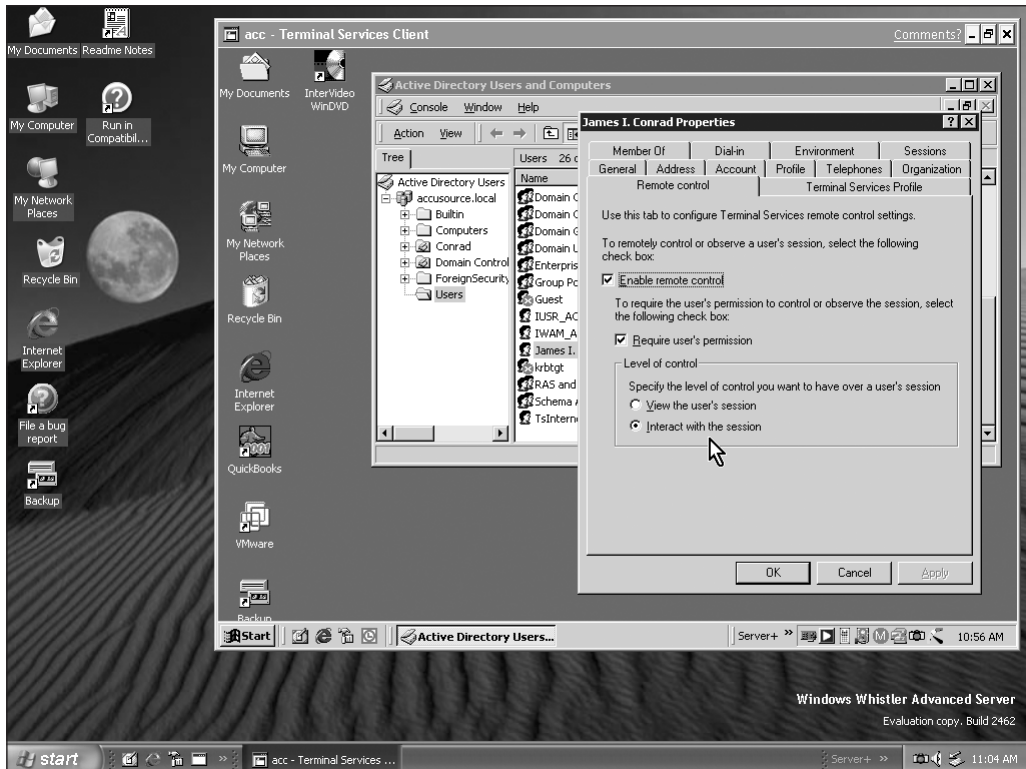

Figure 12-9 Remotely connecting to a Windows 2000 Advanced Server computer from Windows .NET Server
- *Remote administration mode* allows up to two administrators to connect as if local to the server at no additional licensing expense (see Figure 12-9). Of course, this is the mode we are interested in for purposes of remotely administering a server.